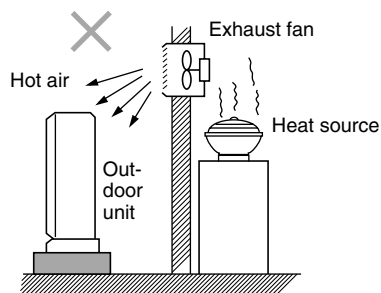

Fig. 2-4
- heat sources and exhaust fans, etc. (Fig. 2-4)